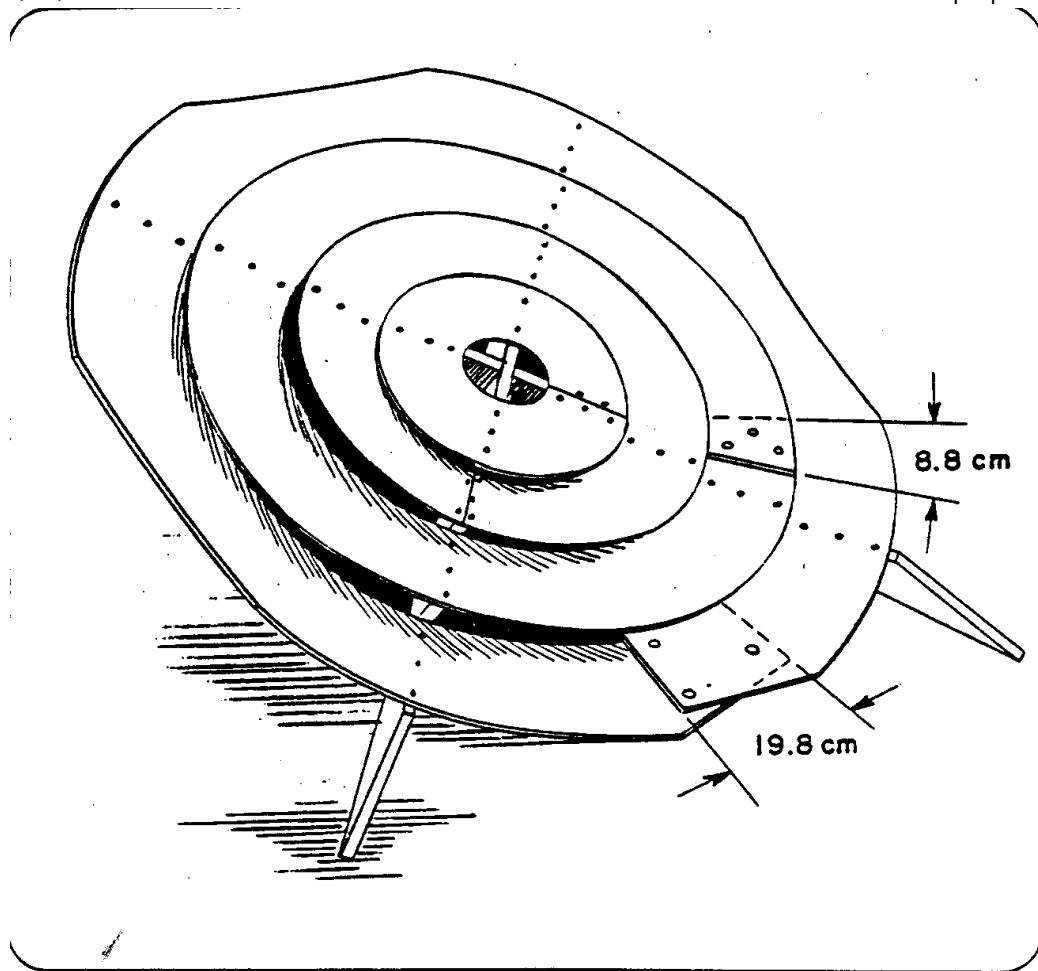

Fig. 6
7. Bending the rings into place and mounting them onto the legs. (See Fig. 6)